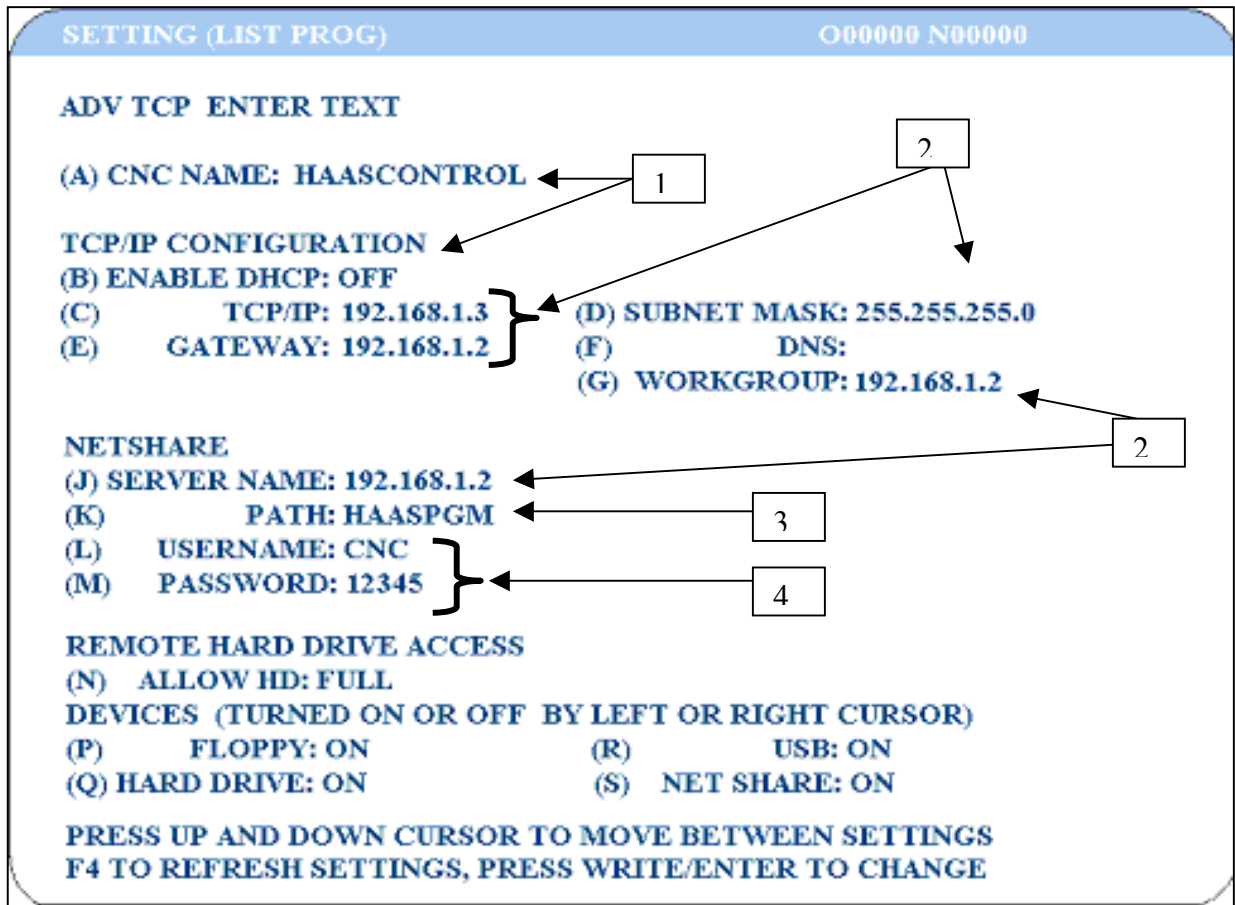

Figure 3
9. The "ADV TCP Settings page shown in Figure 3, can be used as a reference for where the various Settings can be found in this manual. Note that these Settings are not to be used for connecting to the customer's Network. The customer's Network Administrator or IS technician will need to provide the information for Settings A through M. Make sure that you return these Settings to the values they had before you started running any tests. The Ethernet/USB Addendum can also be used for assistance in connecting to the Network.